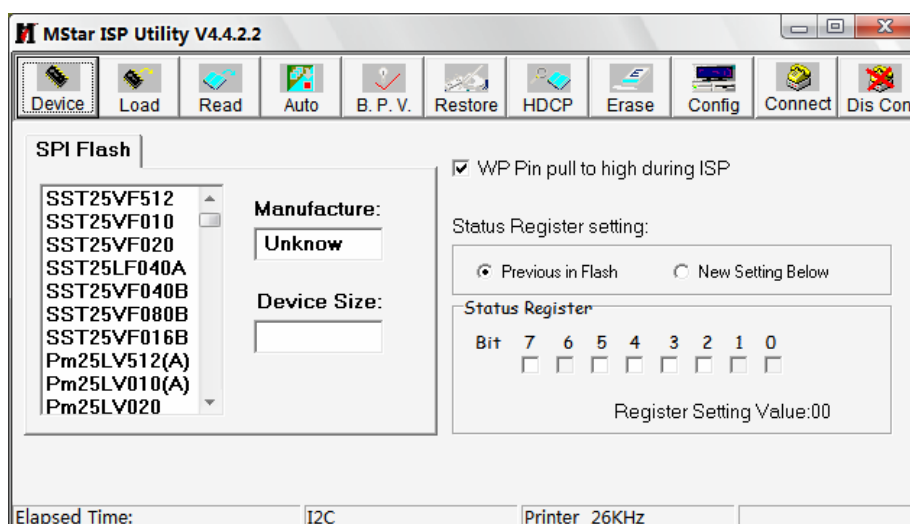

Fig. 2 Write-protect setup
- 2) Using **Mstar** online burning program (**V4.4.2.0** or higher versions), enter into menu “**Device**”, tick option “**WP Pin pull to high during ISP**” to ensure that hardware write-protect of Flash is removed and erasing process is normal, please refer to Fig. 2;